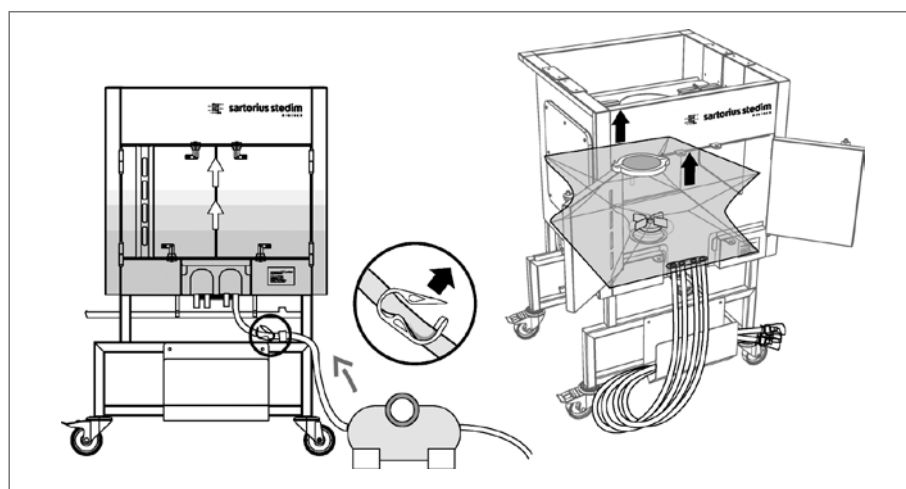

Figure 66
4. Start to fill the Flexel® Bag for LevMixer® – Sartorius Stedim Biotech recommends the use of peristaltic pumps for filling and dispensing (See Fig. 66).